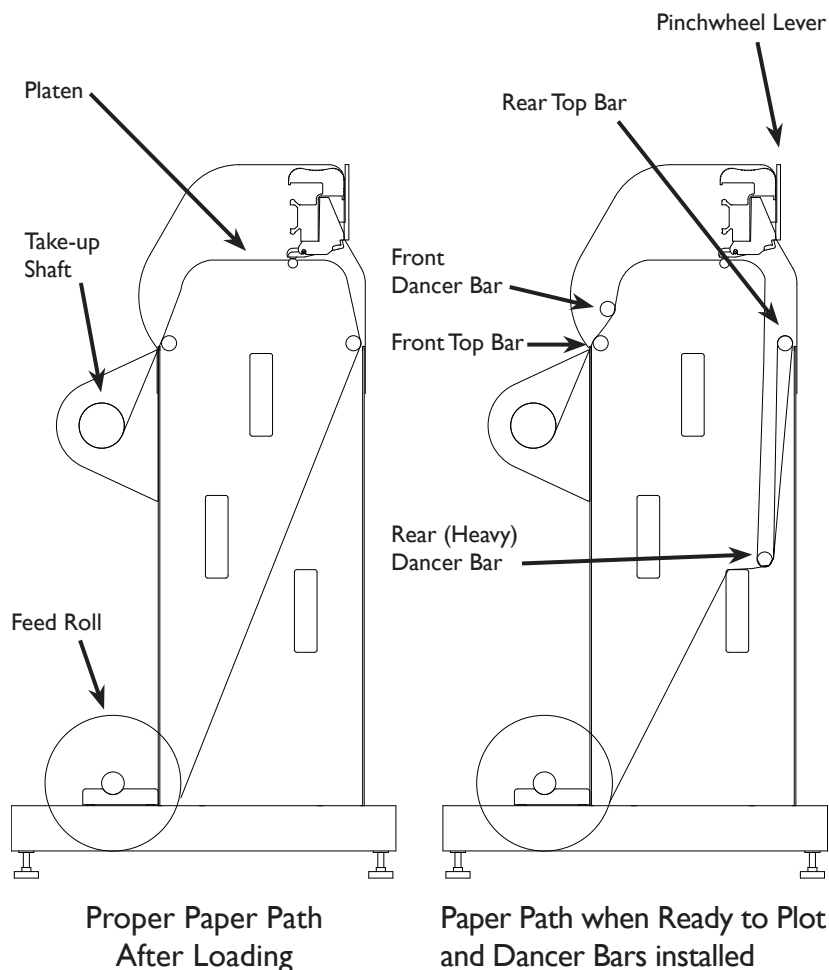

Figure 18. The correct paper feeding path on the Ioline FlexJet Printer.
Figure 18 represents the proper paper path. The diagram on the left shows the paper after it is inserted properly and taped to the take-up shaft. The figure on the right shows the result after the dancer bars are inserted.
4. Grasp the front edge of the paper with both hands and pull 20-in (51-cm) of paper over the platen and gray top bar and under the take-up shaft. (See *Figure 18* for the proper paper path.)